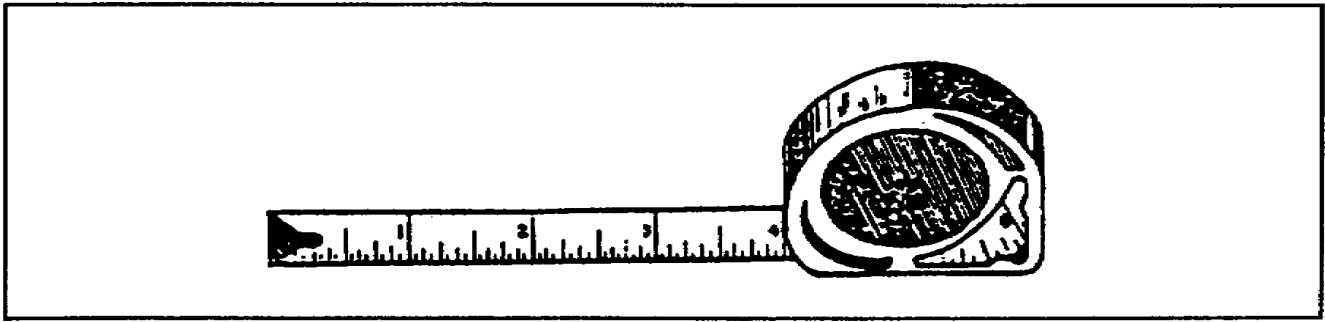

Figure 2-44. Steel tape
b. Steel Tape. In recent years, the flexible steel tape has been replacing the folding rule. It is also marked off in feet and inches and graduated in sixteenths of an inch. The flexible steel tape is housed in a metal casing with a spring attachment, which retracts the tape into the casing when the end is released. This type of rule is best because of its compactness and suitability for taking inside measurements (Figure 2-44).